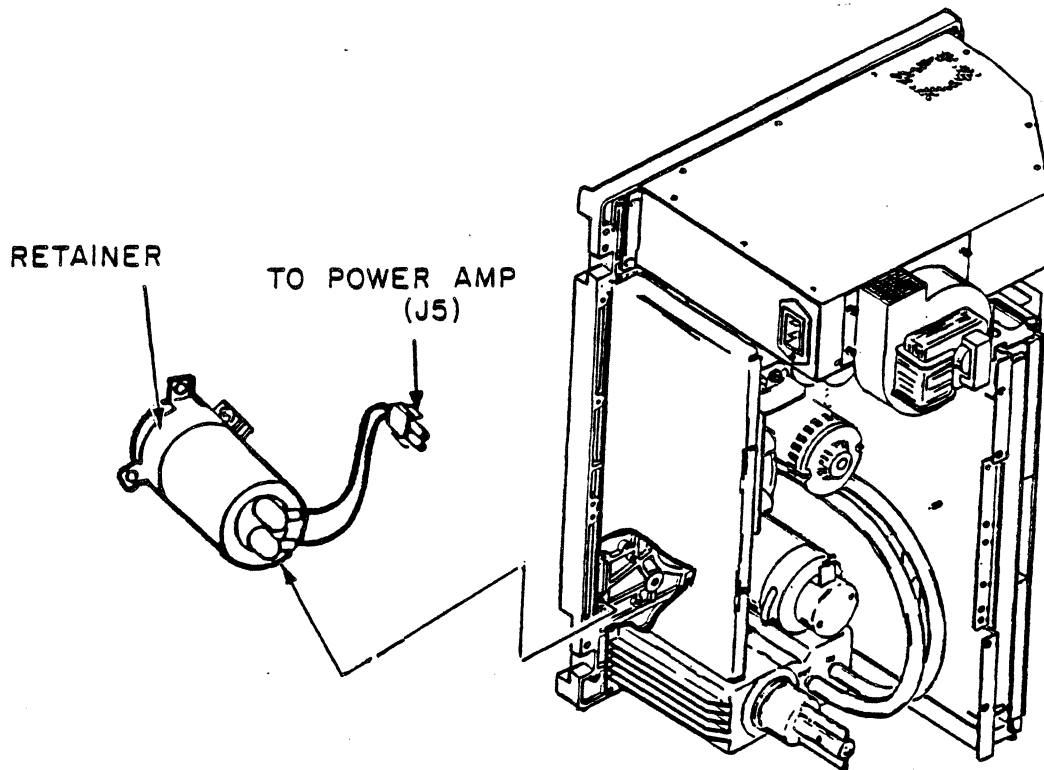

Figure 6-29. Capacitor
3. Insert a screwdriver through the access hole and loosen the screw holding the capacitor in the retainer. Remove the capacitor from the retainer (see figure 6-29).